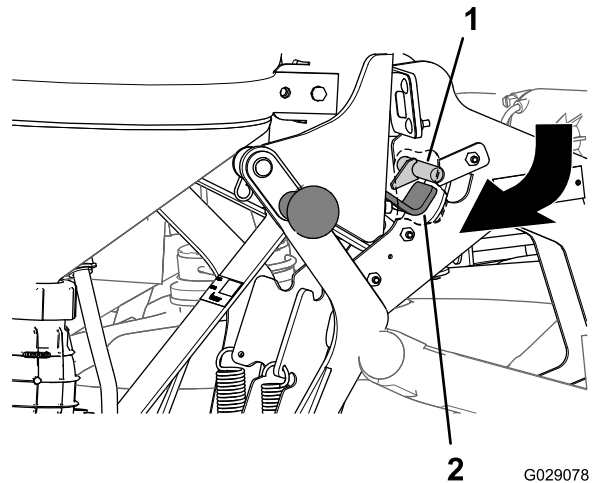

Figure 38
3. Pull the educator handle outward and down until the hook of the latch at the inboard side of the back plate is clear of the latch rod of the main support-frame assembly (Figure 38).
- Push in the handles at the top of the cradle until the hook portion of the latch is aligned behind the latch rod of the main-support frame (Figure 38).